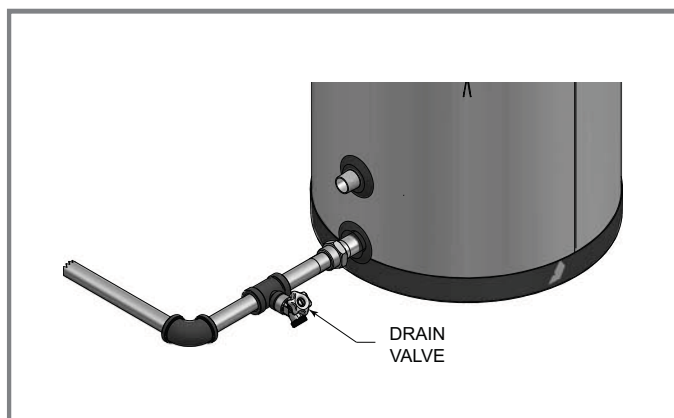

Figure 4-1 Drain valve installed
- Install a tee connection at the domestic cold water inlet (FIG. 4-1).